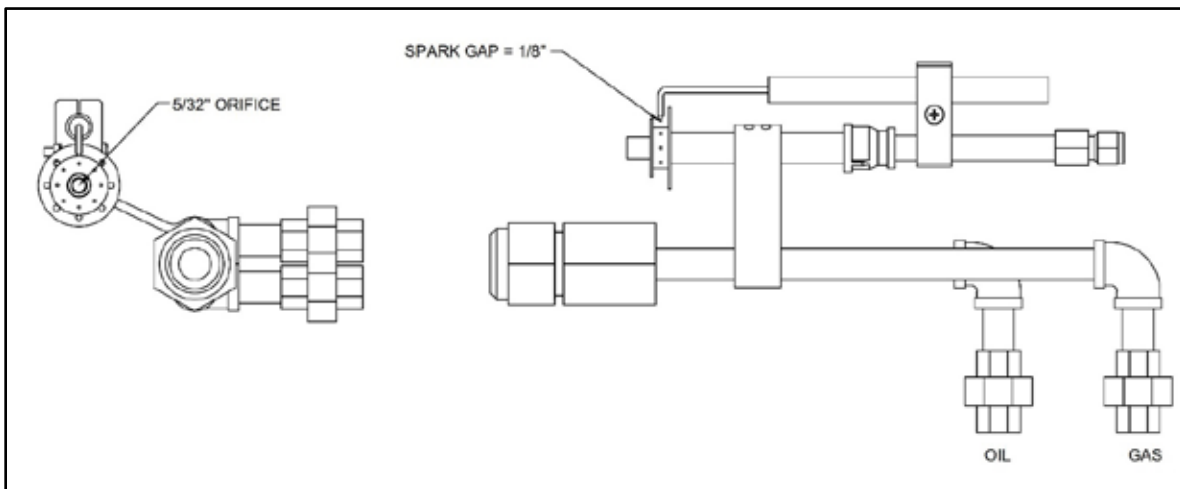

Figure 15: Pilot/gun details
- 3.3.4 Remove the pilot assembly and check for proper settings of the spark gap, tightness of electrode in its bracket, and firm connections of the electrode cable (see Figure 15 for pilot details).